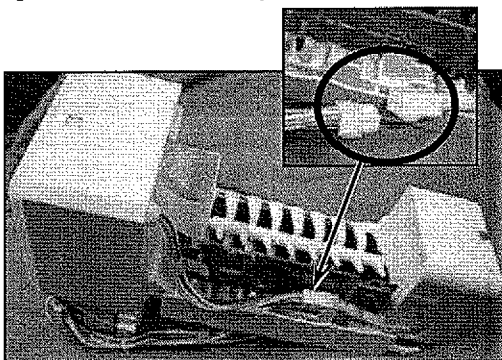

FIGURE 7
9. Set ice maker module upright and disconnect ice maker to auger wire harness. See Figure 7.